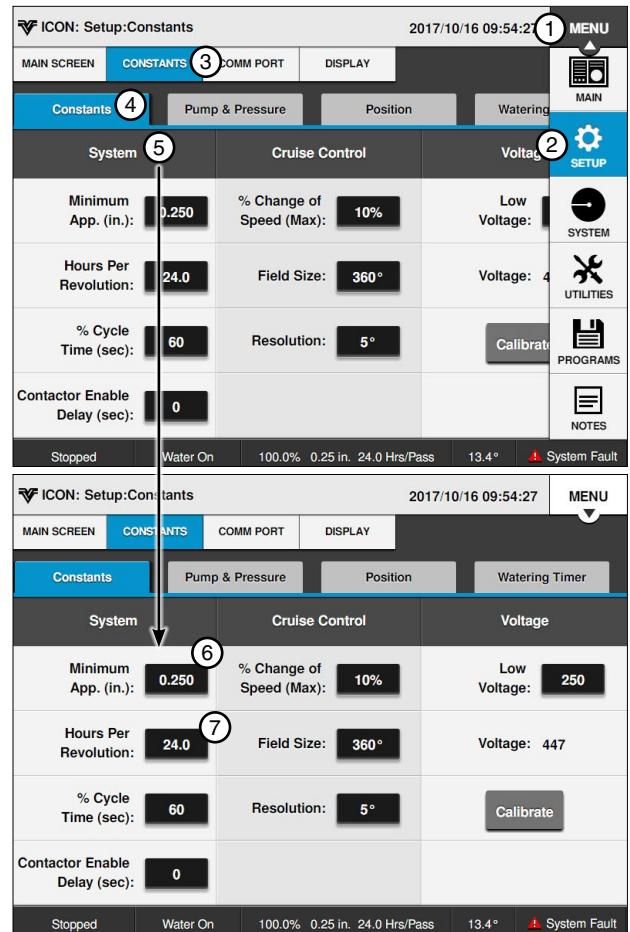

Figure 15-1 1. Menu 5. System/Cruise Control/
Push **Menu**, **Setup**, **Constants**, and **Constants** to display the System/Cruise Control/Voltage screen. Refer to Figure 15-1.
Minimum Application is used to set the depth of water applied at a percentage timer setting of 100 percent. Refer to Figure 15-1.
1. Push the **Menu**, **Setup**, **Constants**, and **Constants** to display the System screen. Refer to Figure 15-1.
The **Hours Per Revolution** is used to set the number of hours required, at a percent timer setting of 100%, for the machine to make one complete revolution. Refer to Figure 15-1.